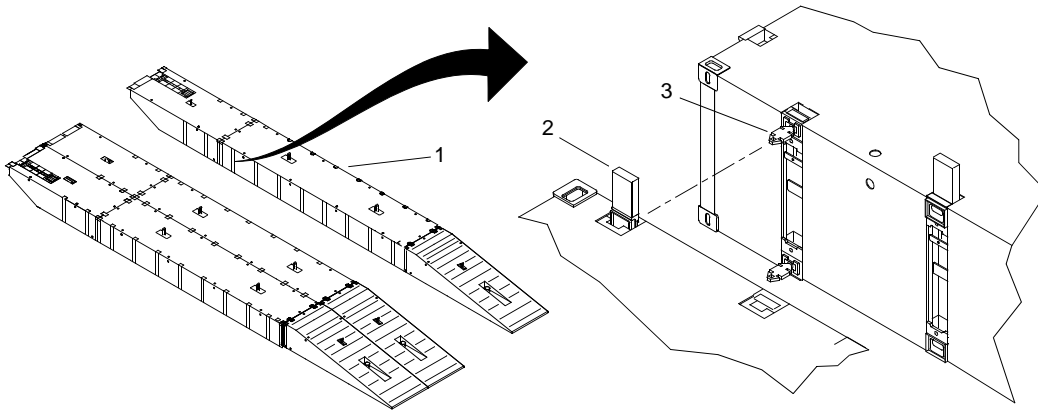

Figure 17. Assembly of Combination Beach/Sea End Section on a Sealift Vessel
1. Position module string (figure 17, item 1) so that female connectors (figure 17, item 2) align with male connectors (figure 17, item 2) on the other module strings (figure 17, item 1).